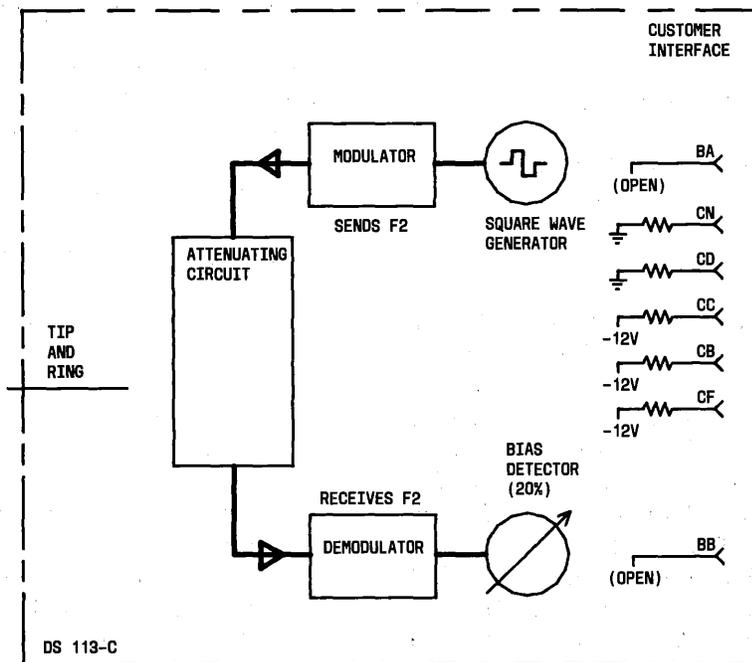

Fig. 3—Local Self Test Mode—Simplified Block Diagram
2.08 In the local self test (Fig. 3), the data set goes through the handshaking sequence. The square wave signal is applied to the transmitter, looped through an attenuating circuit to the receiver, and the demodulated signal is checked by the bias detector. In this way, most of the circuits of the data set are checked. The MC lamp goes off after a short delay if the bias of the received data signal is under 20 percent. All other lamps except TR are lighted, indicating proper operation of the set. The TR lamp is lighted if the CPE has the CD lead turned *on*.